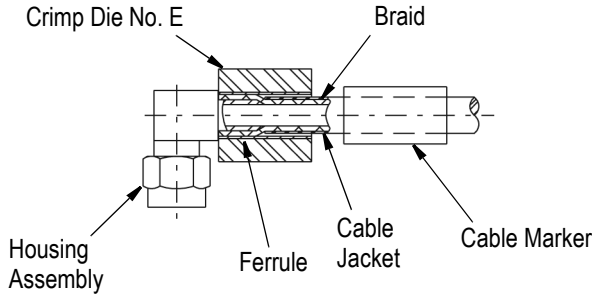

Figure 3
3. Crimp ferrule in place (see Figure 3).